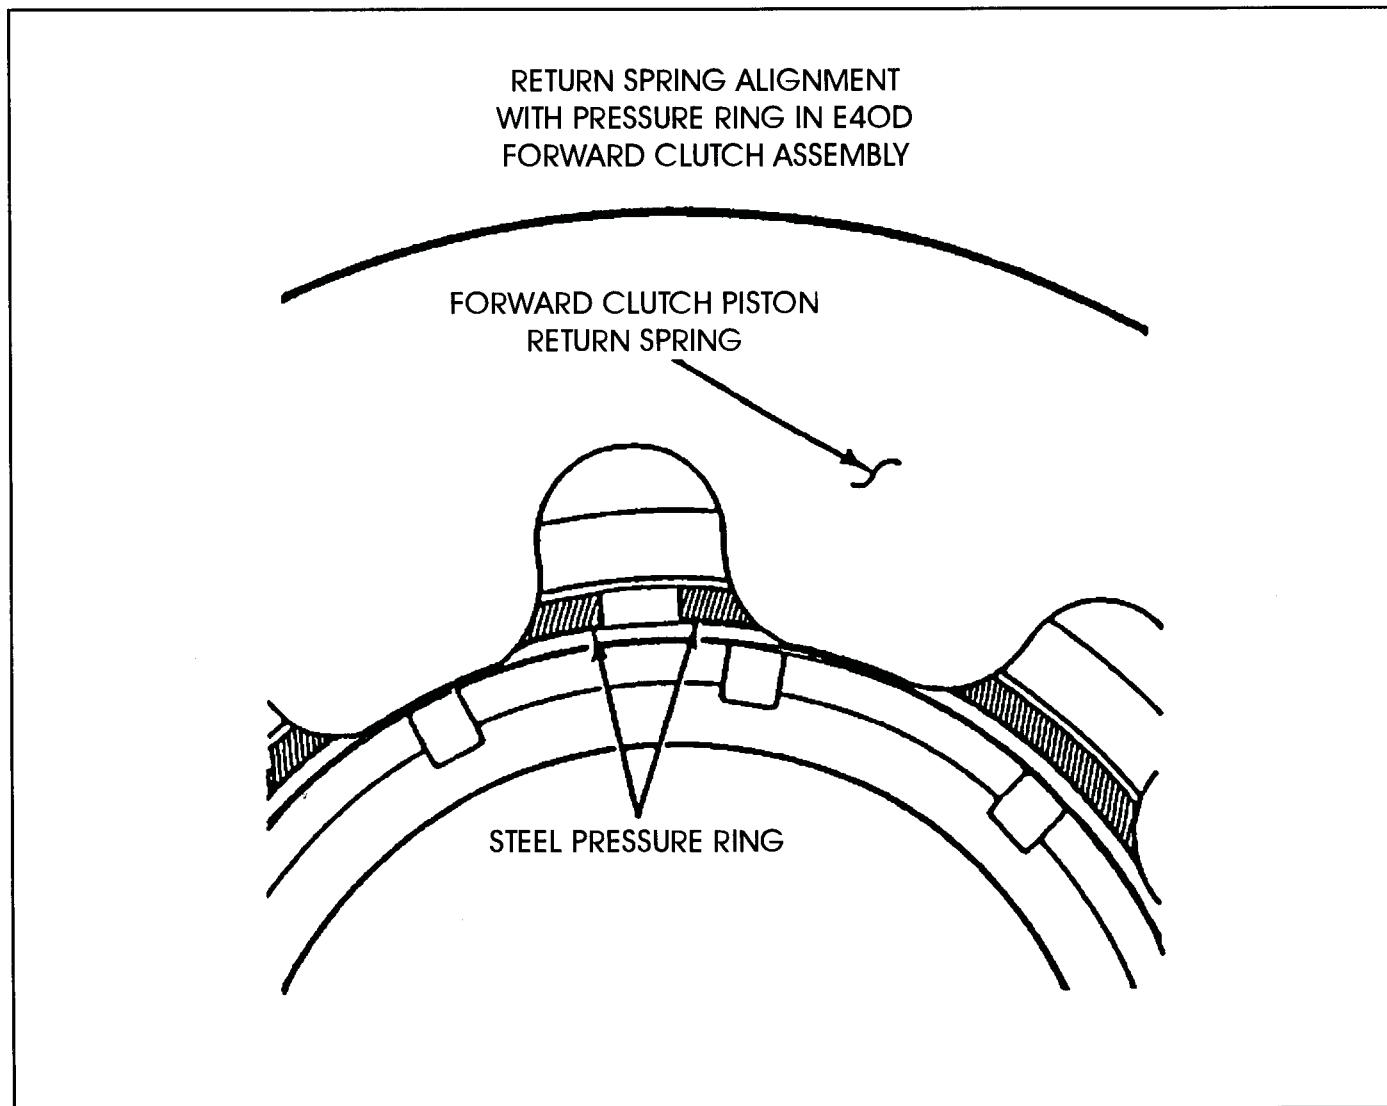

Figure 34
**CORRECTION:** Position the forward clutch piston return spring so that both ends of the steel ring are visible within the space between the two adjacent fingers of the return spring as shown in Figure 34.